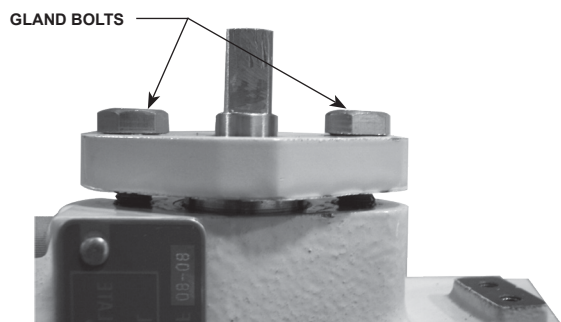
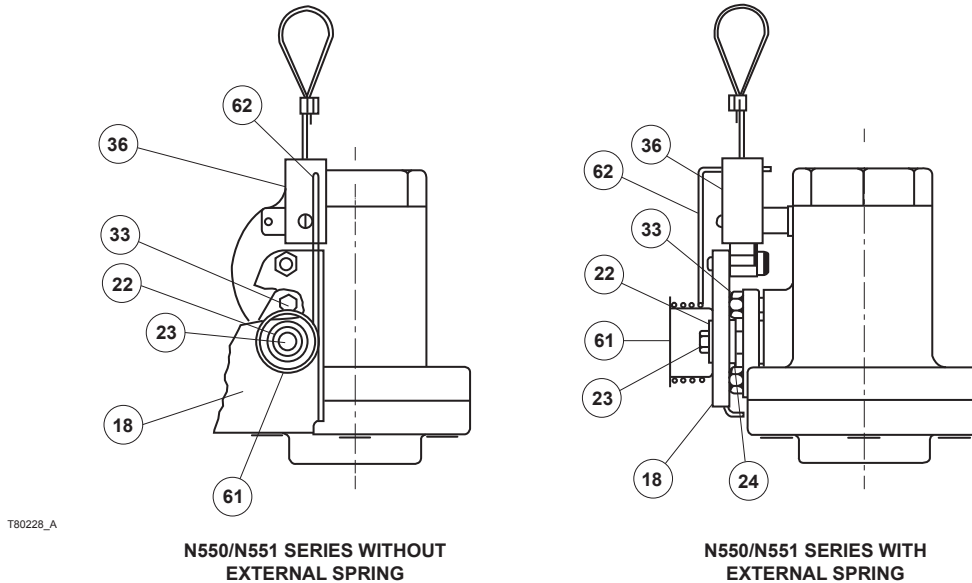
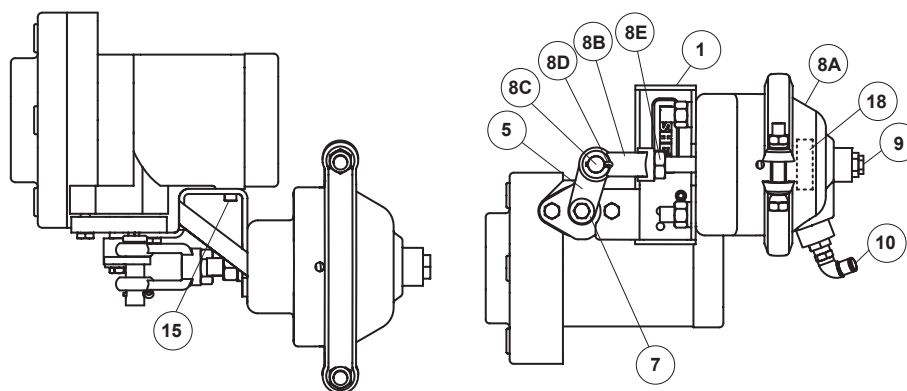

Figure 2. Tighten Gland Bolts Evenly to Keep Retainer Plate Parallel from Valve Body
Figure 4. N550/N551 Series Valve Prior to Mounting Type P539A
Figure 5. Type P539A Pneumatic Actuator Assembly
Refer to Figure 4, **for units with an external spring:** Remove the bolt (key 23), spring mandrel (key 61), the external torsion spring (key 62), fuse link (key 22), handle (key 18), latch block (key 36) and the rear gland bolt (key 33). **KEEP THE BOLTS (keys 23 and 33) AND THE RETAINER (key 24).**
Refer to Figure 4, **for units without an external spring:** Remove the latch block (key 36), fuse link (key 22), bolt (key 23), handle (key 18) and the rearward rear gland bolt (key 33), closest to the actuator clevis. The other gland bolt should remain in place. **KEEP THE BOLTS (keys 23 and 33).**
Refer to Figure 5, **mounting the actuator as following steps:**
1. Mounting the actuator BRACKET the same direction as Figure 5 onto the valve's rear gland. Replace and tighten the rear gland bolt (key 33, Figure 4). **DO NOT OVER TIGHTEN THE GLAND BOLT** because binding of the ESV shaft could occur. Tighten the gland bolt only enough to prevent leakage and ensure that the retainer plate is parallel to the valve body (see Figure 2).
2. Install the hex bolts (key 15) through hole in the bracket and attach to the N550/N551 Series body. For installing the Type P539A to the
3. Put the LEVER on the ESV shaft and then reinstall the BOLT (key 23, Figure 4) and the LOCKWASHER (key 7).
4. Connect the actuating pressure line tubing to the push to connect fitting port (key 10).